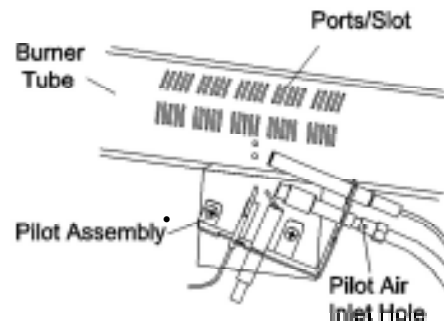

Figure 33 – Pilot Air Inlet Hole
6. In case any large clumps of dust have now been pushed into the burner. Repeat steps 3 and 4. Clean the pilot assembly also. A yellow tip on the pilot flame indicates dust and dirt in the pilot assembly. There is a small pilot air inlet hole about two inches from where the pilot flame comes out of the pilot assembly (see Figure 33). With the unit off, lightly blow air through the air inlet hole. You may blow through a drinking straw if compressed air is not available.